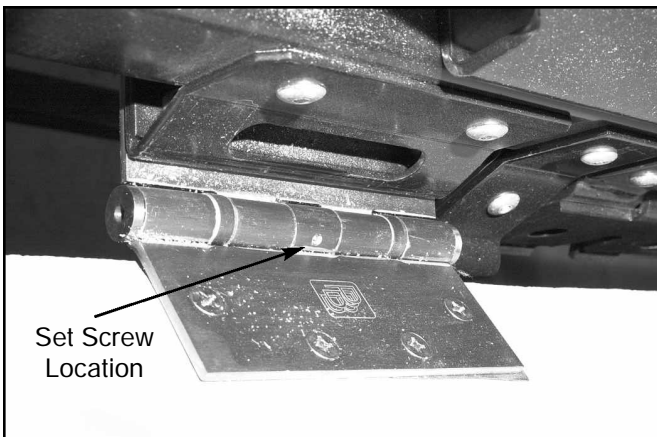

Figure 11-1 Set Screw Location
3. With the door open, locate the set screws on the inside of the hinges. The setscrews can only be accessed with the door open. Loosen the set screws enough to be able to remove the door hinge pin shown in Figure 11-1.
3. With door open, locate the set screws on the inside of the hinge shown in Figure 11-1. The set screws can only be accessed with the door open. Tighten the set screw to secure hinge pin in position.